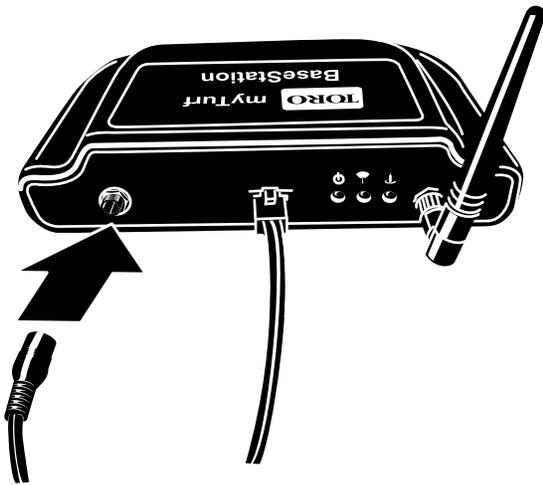

Figure 9
1. Plug the power cord into the BaseStation (Figure 9).